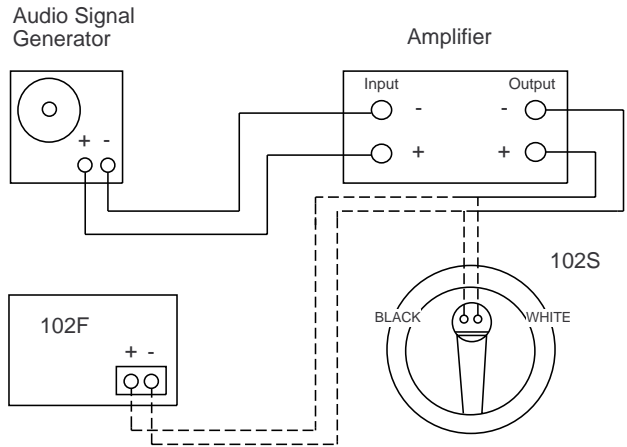

Figure 7. Test Connections for 102F or 102S Loudspeaker
1.1 Connect the test setup as shown in **Figure 7**.